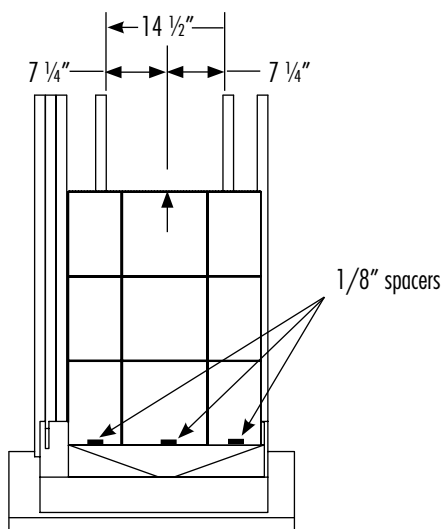

figure 9
3. Place the faucet wall panel 3B into position. Slide the panel all the way towards the shower pan threshold (fig. 9). Use 1/8" spacers between the pan and the bottom of the wall panel. Check for proper fit and alignment.
1. From the center of the middle tile, check again to make sure there is a minimum of 14 1/2" between the studs where the plumber's Upgrade will be placed (fig. 9).